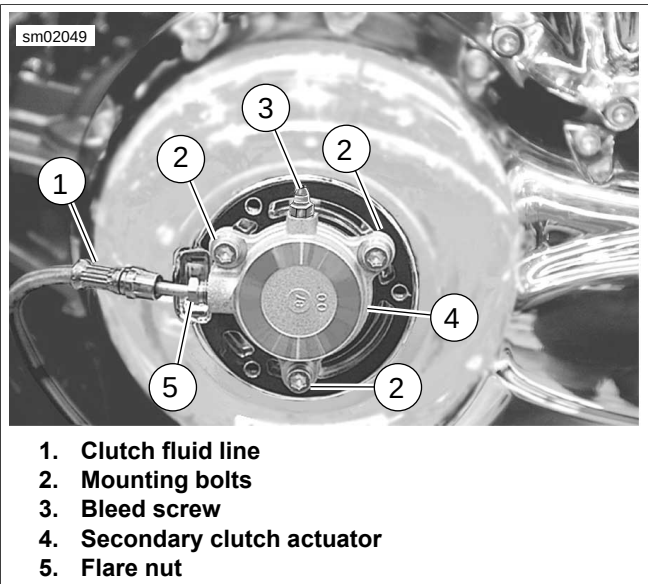

Figure 2-32. Secondary Clutch Actuator Installed
2. See Figure 2-32. Remove mounting bolts (2) holding secondary clutch actuator (4) to clutch cover.
4. See Figure 2-32. If replacing secondary actuator:
- a. Place a suitable container under secondary clutch actuator (4). Loosen flare nut (5) and allow clutch fluid to drain from clutch line (1).